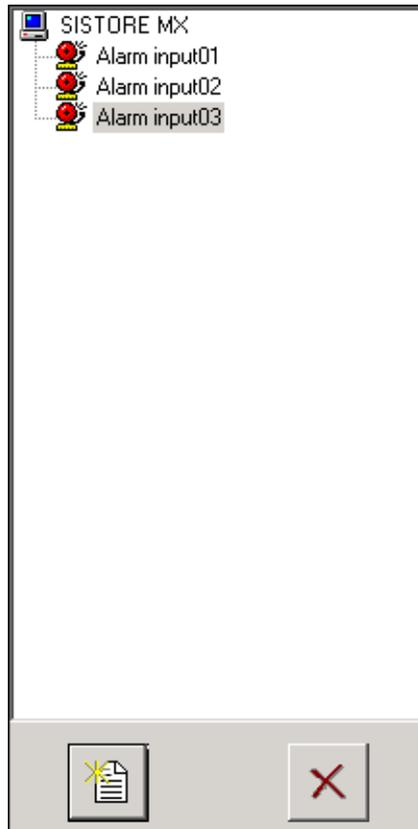

Fig. 50 Alarm inputs list on the **Alarm input** tab
2. Select the alarm input you want to configure from the list (see "Fig. 50", page 61).
- Normal (the alarm input icon in the alarm input list is red, see "Fig. 50", page 61)
2. Select the alarm input you want to test from the list (see "Fig. 50", page 61).